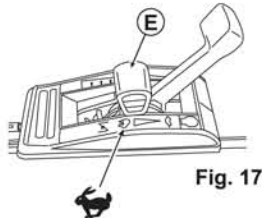

Fig. 17
2. Set Throttle lever (E) to "🐢" to start mowing. (See Fig. 17)